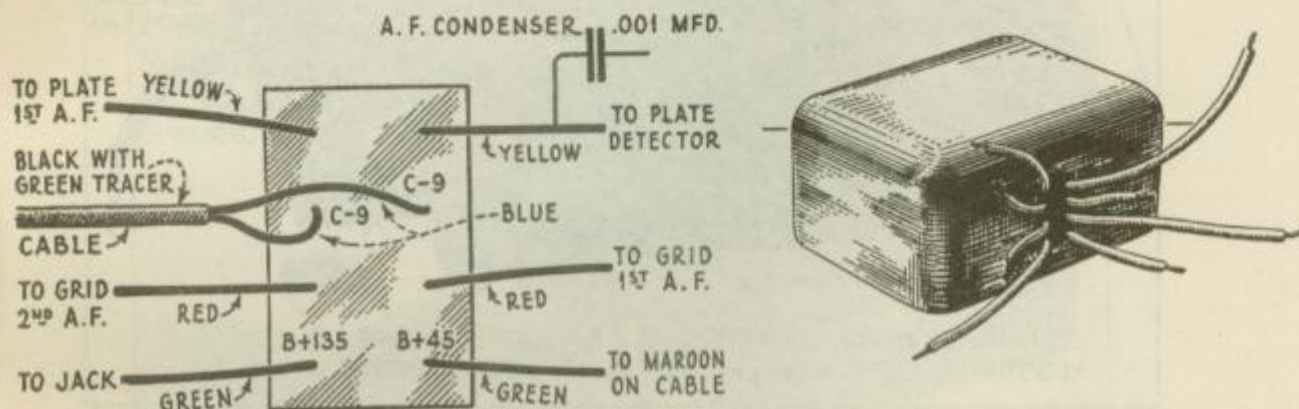

Figure 10—Audio frequency transformers and color scheme of connections
5. Solder all leads in place as indicated by tags attached. The color scheme of these connections is shown in Figure 10.